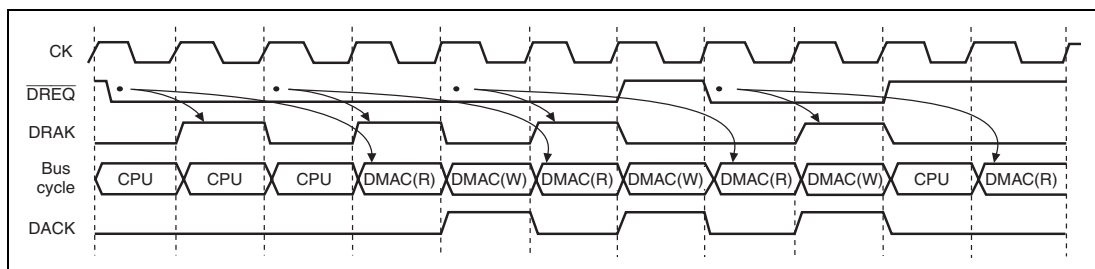

**Figure 10.18 Burst Mode, Dual Address and Level Detection (Fastest Operation)**
**Burst Mode, Dual Address, and Level Detection:** Figures 10.18 and 10.19 show the  $\overline{\text{DREQ}}$  sampling timing in burst mode with dual address and level detection.  $\overline{\text{DREQ}}$  sampling timing in this mode is virtually the same as that of cycle steal mode.
For example, DMAC transfer begins (figure 10.18), at the earliest, three cycles after the timing of the first sampling. The second sampling also begins from the start of the transfer one bus cycle before the start of the first DMAC transfer. In burst mode, as long as transfer requests are issued, DMAC transfer continues. Therefore, the “transfer one bus cycle before the start of the DMAC transfer” may be a DMAC transfer.